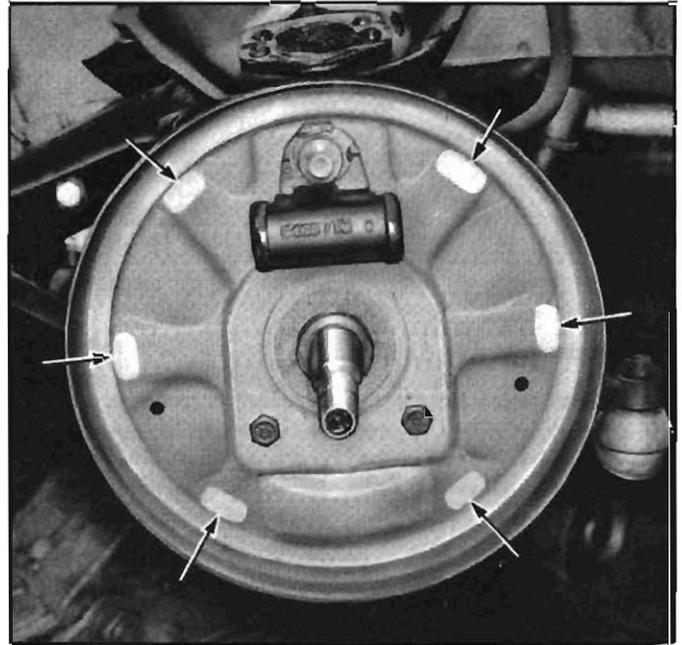

Fig. 5-10—Backing Plate Contact Faces
14. Pry shoes away from backing plate and lubricate shoe contact surfaces with a thin coating of brake lubs (fig. 5-10).